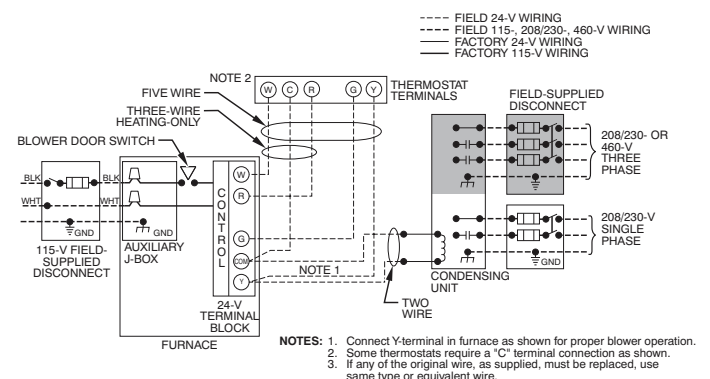
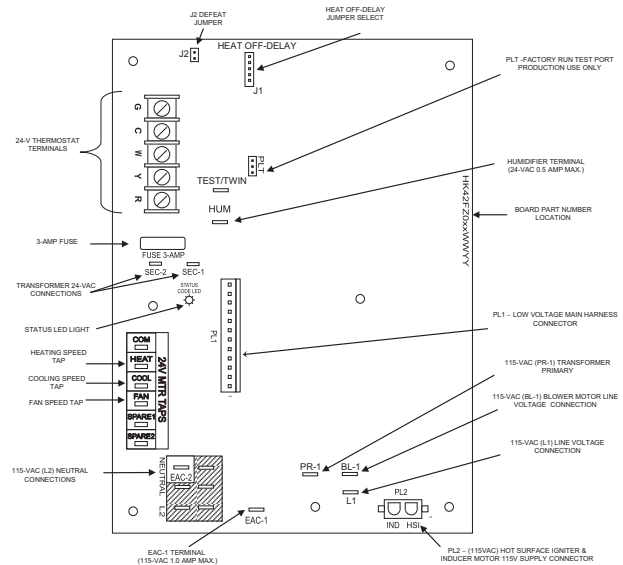

Fig. 32 – Typical Single-Stage Wiring Diagram A190079
Fig. 37 – Example of Single Stage Furnace Control A190023
See Fig. 32 for field wiring diagram showing typical field 115-V wiring. Check all factory and field electrical connections for tightness. Field-supplied wiring shall conform with the limitations of 63°F (35°C) rise.
- Connect power cord power and neutral leads to furnace power leads as shown in Fig. 32.
- Connect field power and neutral leads to furnace power leads. as shown in Fig. 32.
Make field 24-v connections at the 24-v terminal strip. See Fig. 37. Connect terminal Y as shown in Fig. 32 for proper cooling operation. Use only AWG No. 18, color-coded, copper thermostat wire.
The 24-v circuit contains an automotive-type, 3-amp. fuse located on the control. Any direct shorts during installation, service, or maintenance could cause this fuse to blow. If fuse replacement is required, use **ONLY** a 3-amp. fuse of identical size. See Fig. 37.
Accessories (See Fig. 37.)